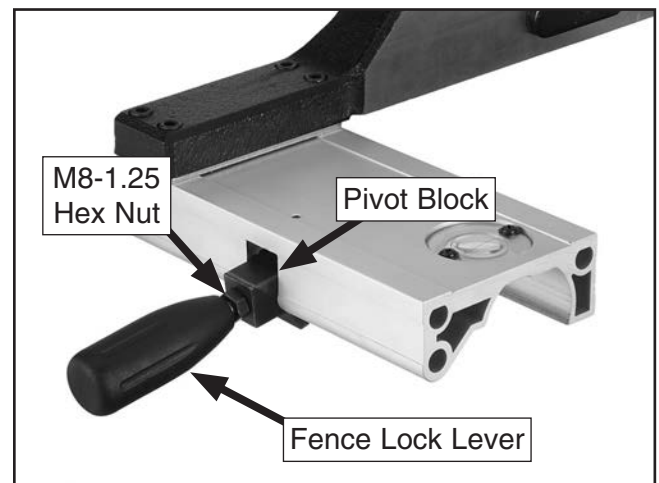

Figure 10. Handle installed on fence assembly.
15. Install (1) M8-1.25 hex nut on the fence lock lever, then thread the handle into the fence assembly (see **Figure 10**). Tighten the hex nut against the fence pivot block to secure the handle.